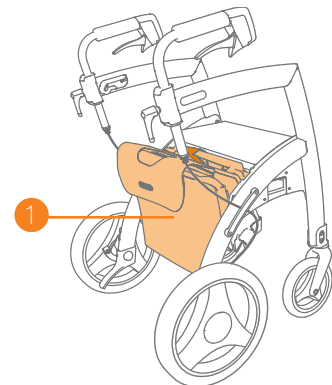

Figure 31: Wheelchair package attached.
- Place the Rollz wheelchair package into the two notches behind the seat (**Figure 31**).